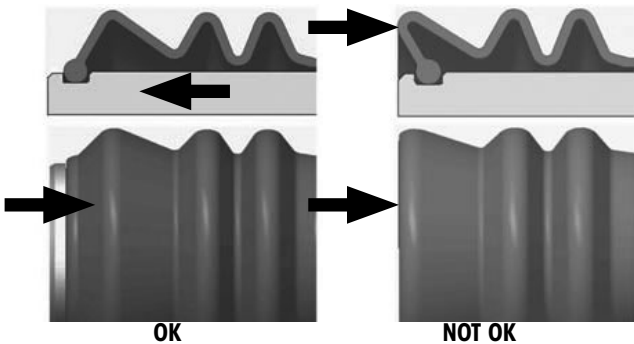

Figure 64: Guide pin boot installation
NOTICE: Damage to guide pin boots may occur if, as shown in Figure 64 (NOT OK), the guide pin boots are allowed to extend past the guide pin face. This can result in unwanted pinching and/or wear of the boot as it contacts the brake carrier.
12. **Manually push** the guide pins out of the brake caliper towards the brake carrier until the leading fold (Figure 64, NOT OK) of the guide pin boot pulls away from the collar (Figure 64, OK).